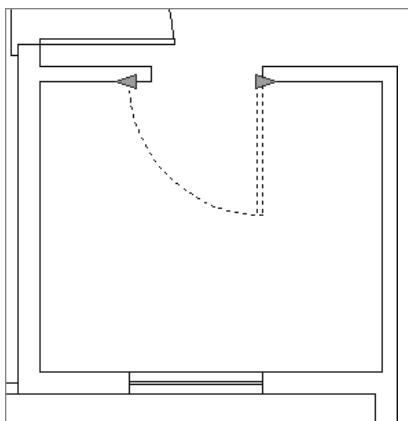

FIGURE 9.55 The dynamic block's resizing arrows
11. Close DesignCenter if it's still open, and select the bathroom door block to reveal the blue dynamic arrows (see Figure 9.55).